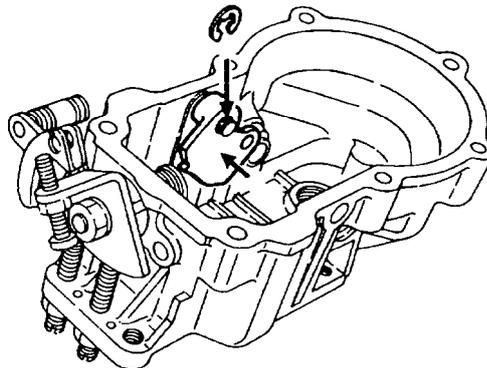

Figure 108 Installing the Torque Cam
- o.** Position the torque cam on the pivot pin in the governor cover (Figure 108) and secure the torque cam in place with a new snap-ring.